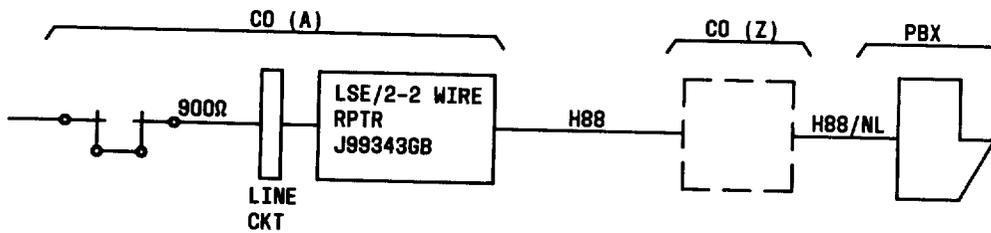

Fig. 6—Typical FX Trunk Application of the J99343GB CFU
4.01 The J99343GB CFU units may be used to provide gain on any 2-wire circuit between 900 Ω terminal equipment and loaded facilities. Figure 6 shows a typical application using the unit in a foreign exchange trunk. These units also can be used on off-premises station (OPS) lines, wide area telephone service (WATS) trunks and lines, and other metallic facility special services. Section 332-910-180 provides additional information.